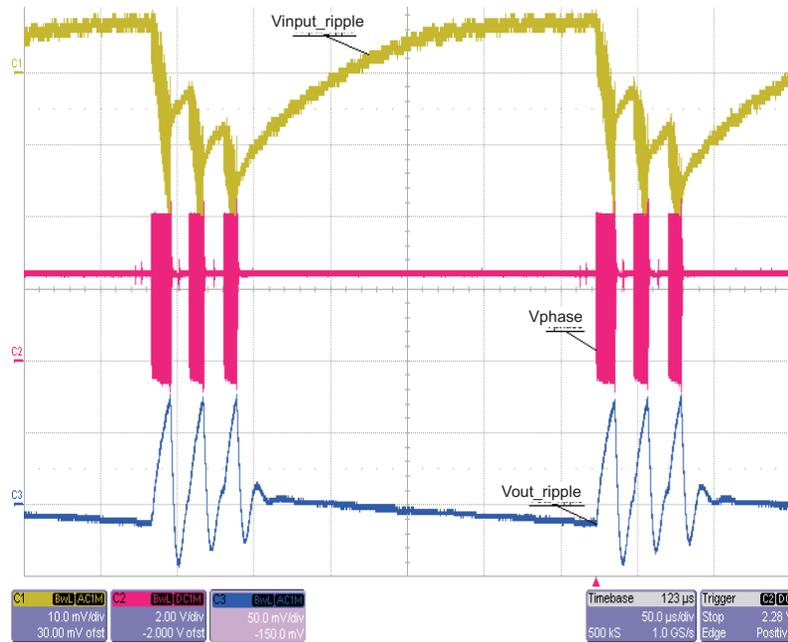

Figure 4. SNOOZE Mode. Vin = 4 V, Vout = 2.5 V, Iout = 25 mA. CH1 = Input Ripple; CH2 = Phase; CH3 = Output Ripple
6. Set the load to 100  $\Omega$  (25 mA), set CH3 to 50 mV/div, and move shunt from JMP1-PWM/PFM to JP1-SNOOZE. Observe that the IC is in low-power mode where the IC shuts down for short periods and then wakes up to restore regulation. Note how the ripple is much larger at the expense of better efficiency at light loads (see Figure 4).